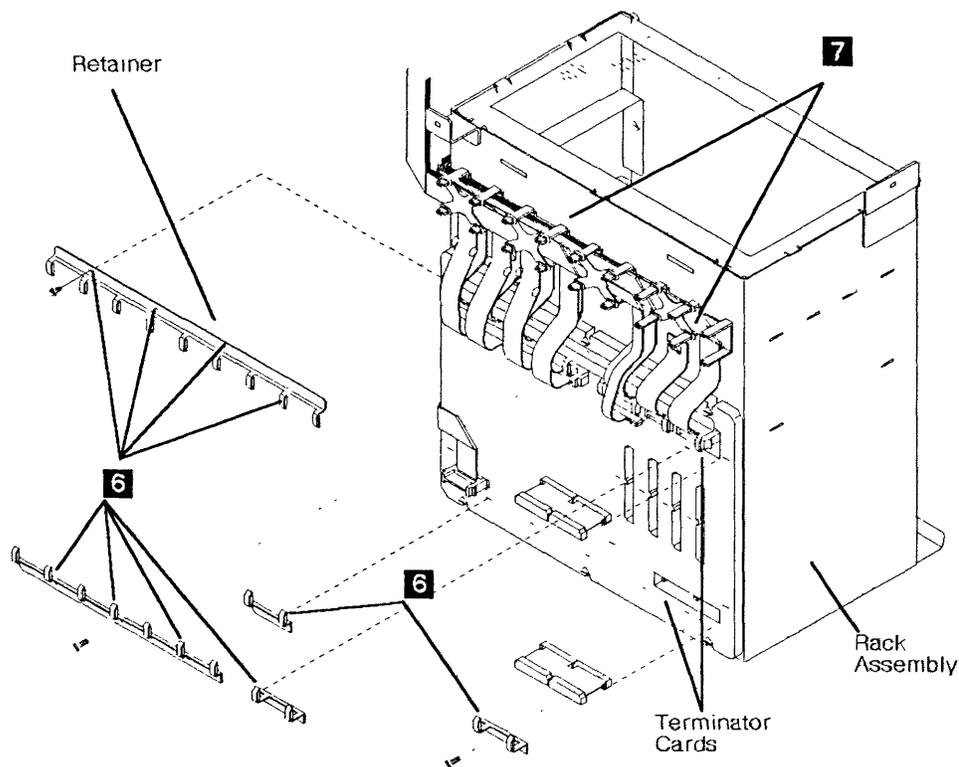
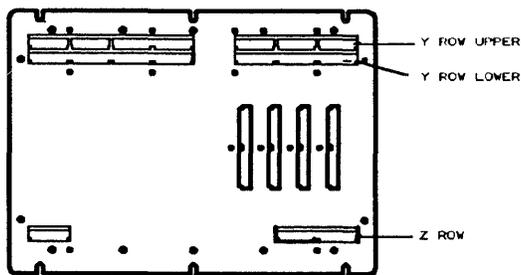

Figure 4-102. Basic Board Cables
Figure 4-105. Y and Z rows
Refer to Figure 4-102 and do the following: .
5. Reconnect the two ground FDS cables and fasten them to the rack assembly with the two screws **7**. Refer to Figure 4-102 on page 4-73.
6. Reconnect the other cables. Refer to Figure 4-102 on page 4-73 and to Figure 4-105.
7. Install the terminator cards and tighten them with the two retainers (1 screw per retainer). Refer to Figure 4-102 on page 4-73.